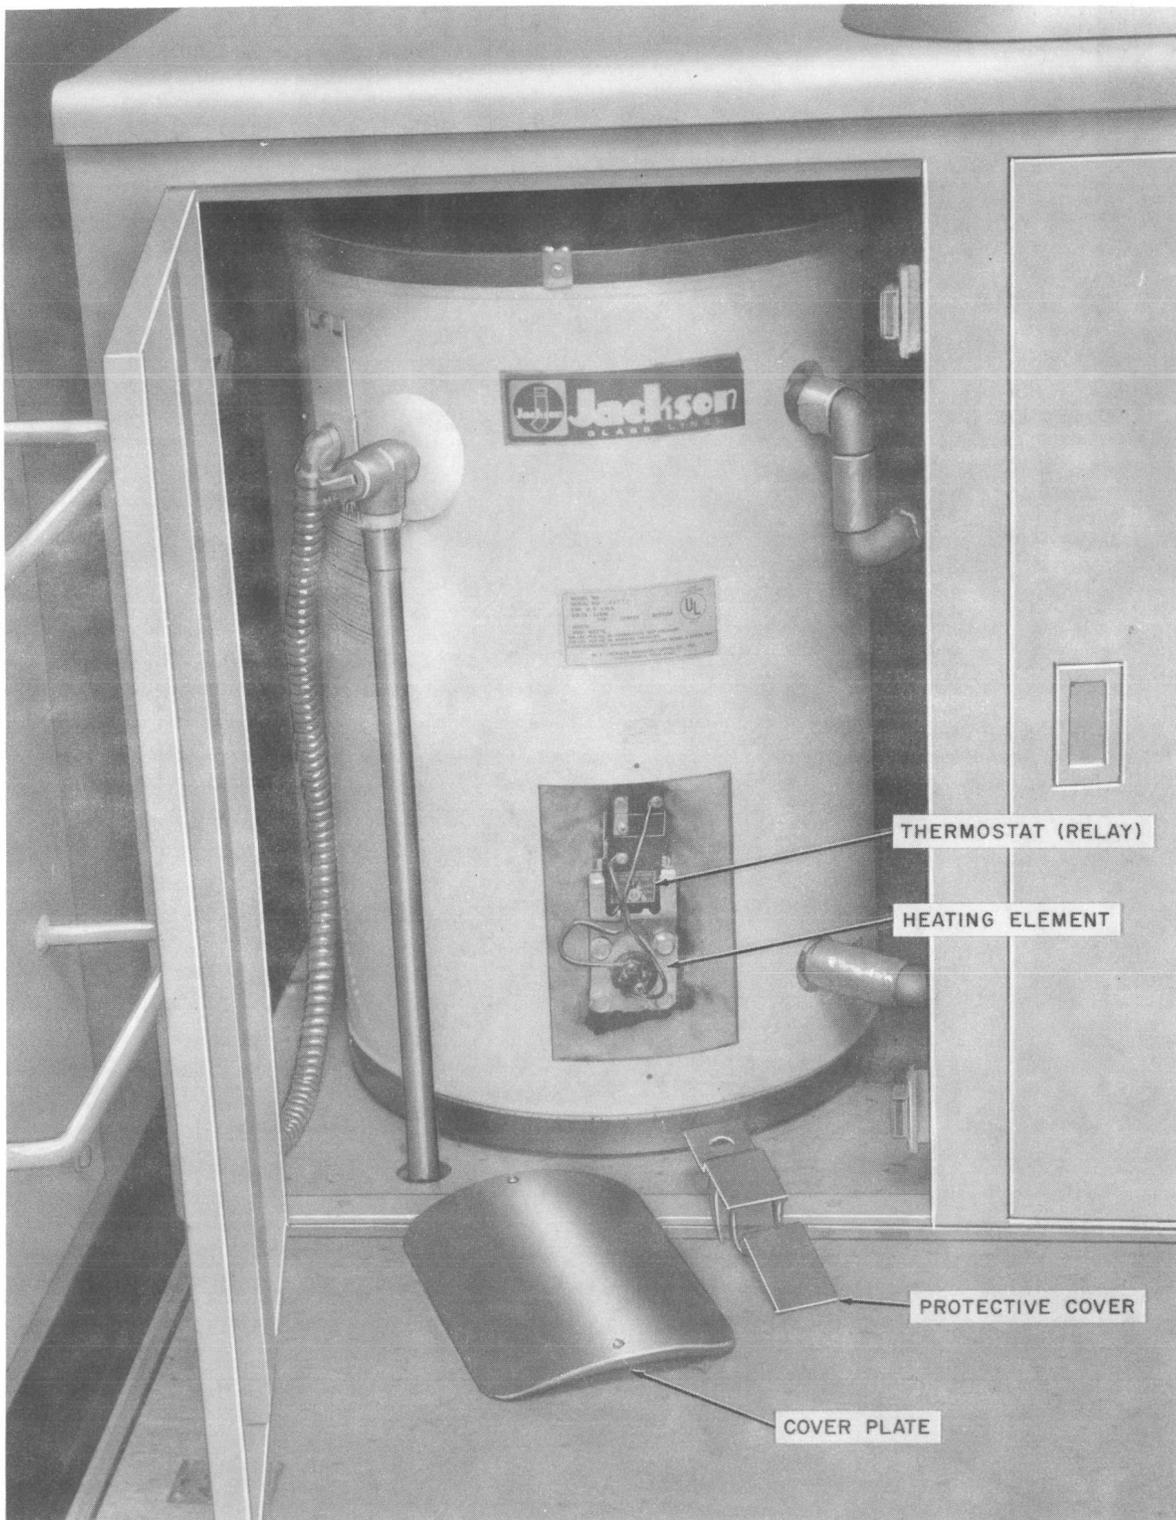

Fig. 34—Jackson Electric Water Heater (Thermostat Adjustment)
9.03 The units' thermostat (Fig. 34) is preset for 150°F. Resetting the thermostat to another temperature is possible; however, the power must be off before removing the cover plate. If the water is too hot, after repeated thermostat adjustments, then the relay contacts may be sticking. *The service representative should be contacted for proper repair.*